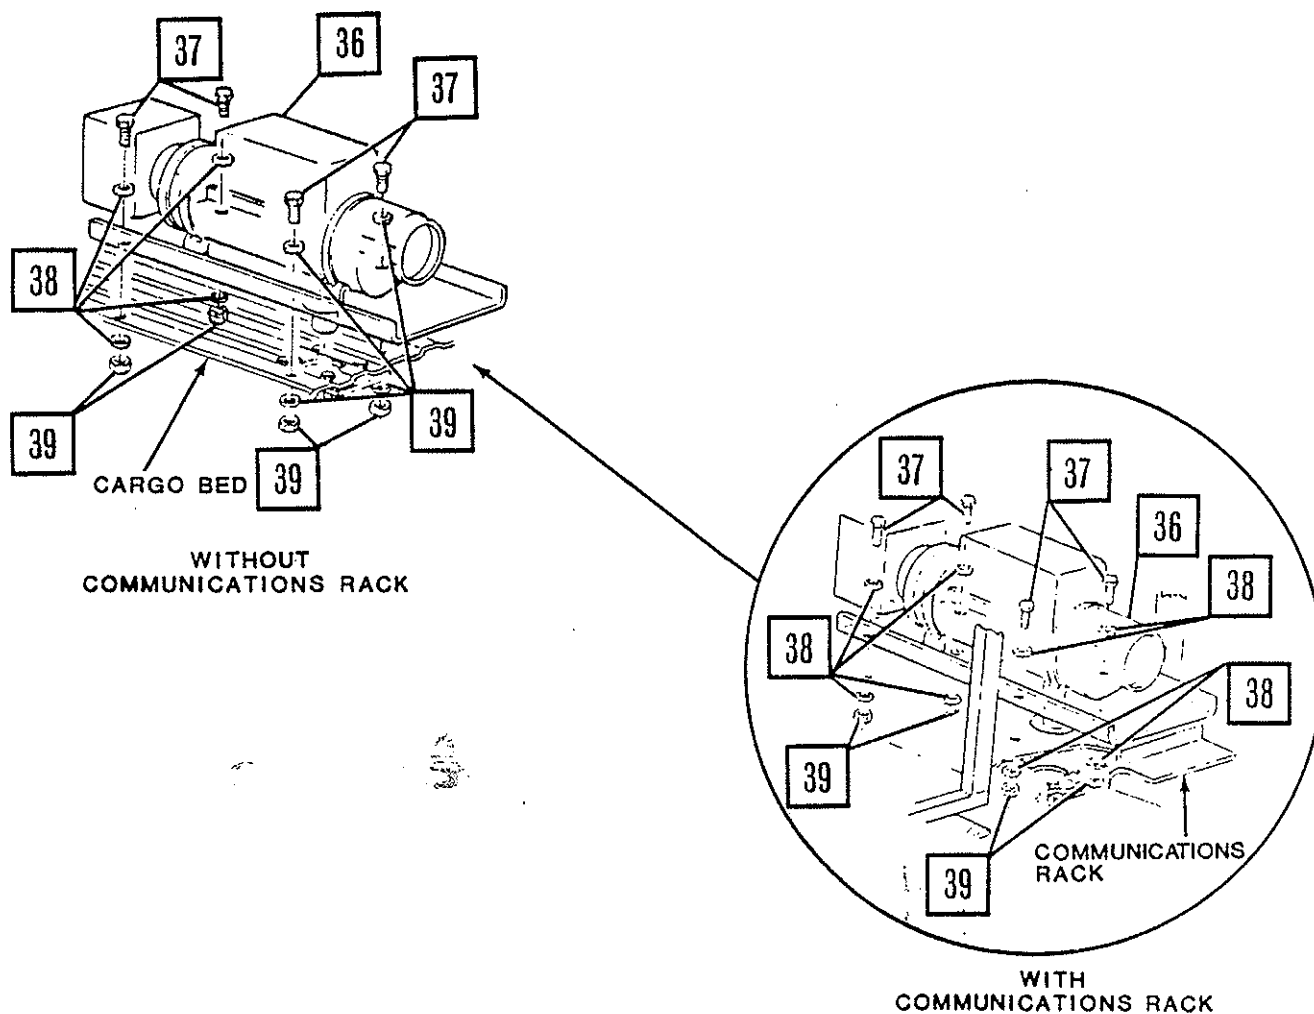

Figure 11.
38. Install heater in drilled holes in communications rack with nuts, bolts and washers (Figure 11.). Tighten bolts to 55-85 lb.-in. (6.0-9.5 Nm).
39. Without communications rack, mount heater directly to cargo floor with nuts, bolts and washers (Figure 11.). Tighten bolts to 55-85 lb.-in. (6.0-9.5 Nm).